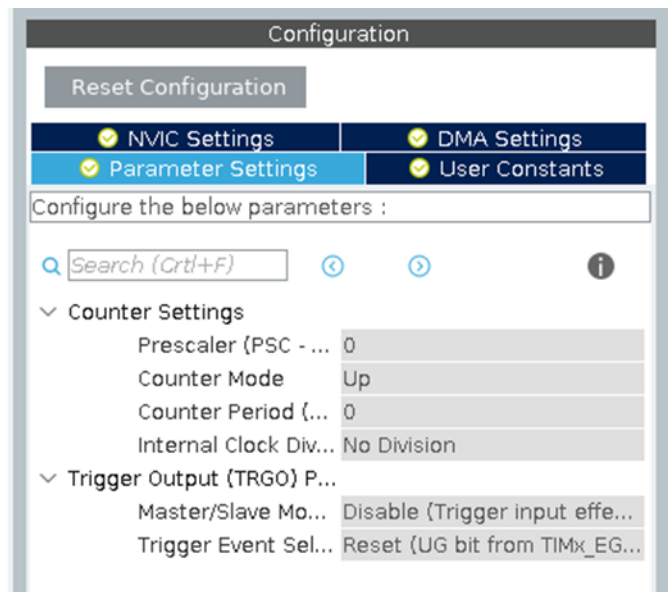

Figure 7: Parameter Settings in the TIM3 Configuration window (polling).
- When polling is done on UIF (Figure 7), enter the proper values for *Prescaler* and *Counter Period* fields (the latter is equivalent to the TIM3_ARR register). Leave the default values for the remaining fields;